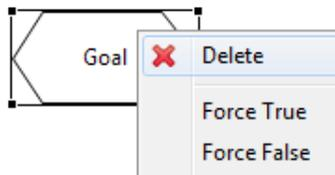

Figure 30: Deleting CGM Element
- [II] By Mouse: **Right click** on the Node/Relation you want to delete, and then select “**Delete**” from the pop-up menu (Figure 30).